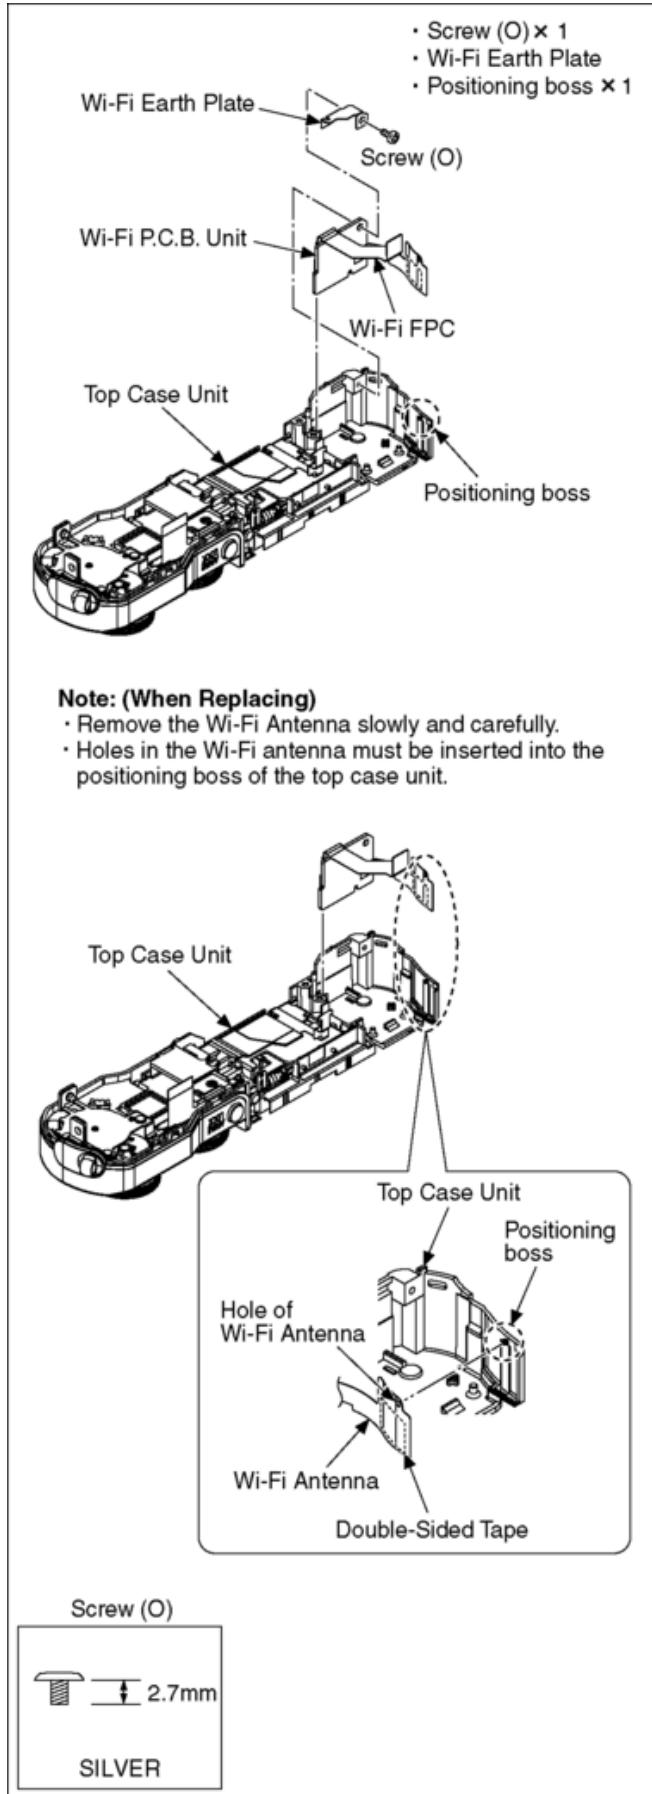

Fig. D14
| 11 | Wi-Fi P.C.B. Unit | (Fig. D14) | Screw (O) × 1 Wi-Fi Earth Plate Positioning boss × 1 Wi-Fi FPC Wi-Fi P.C.B. Unit |